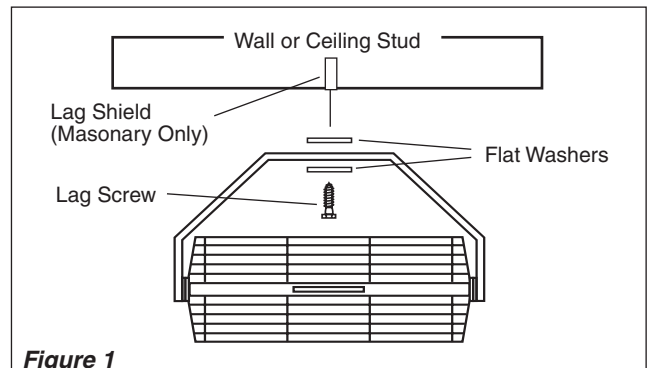

Figure 1
1. **WOOD STRUCTURES:** Locate the wall or ceiling stud nearest to the desired Fan location. Attach the Fan to the stud using a 3/8" diameter x 2" long Lag Screw (Not Supplied). (**Figure 1**)
3. **MASONRY STRUCTURES:** Attach Fan using a 3/8" Lag Screw, with a Lag Shield of appropriate length (Not Supplied). (**Figure 1**)